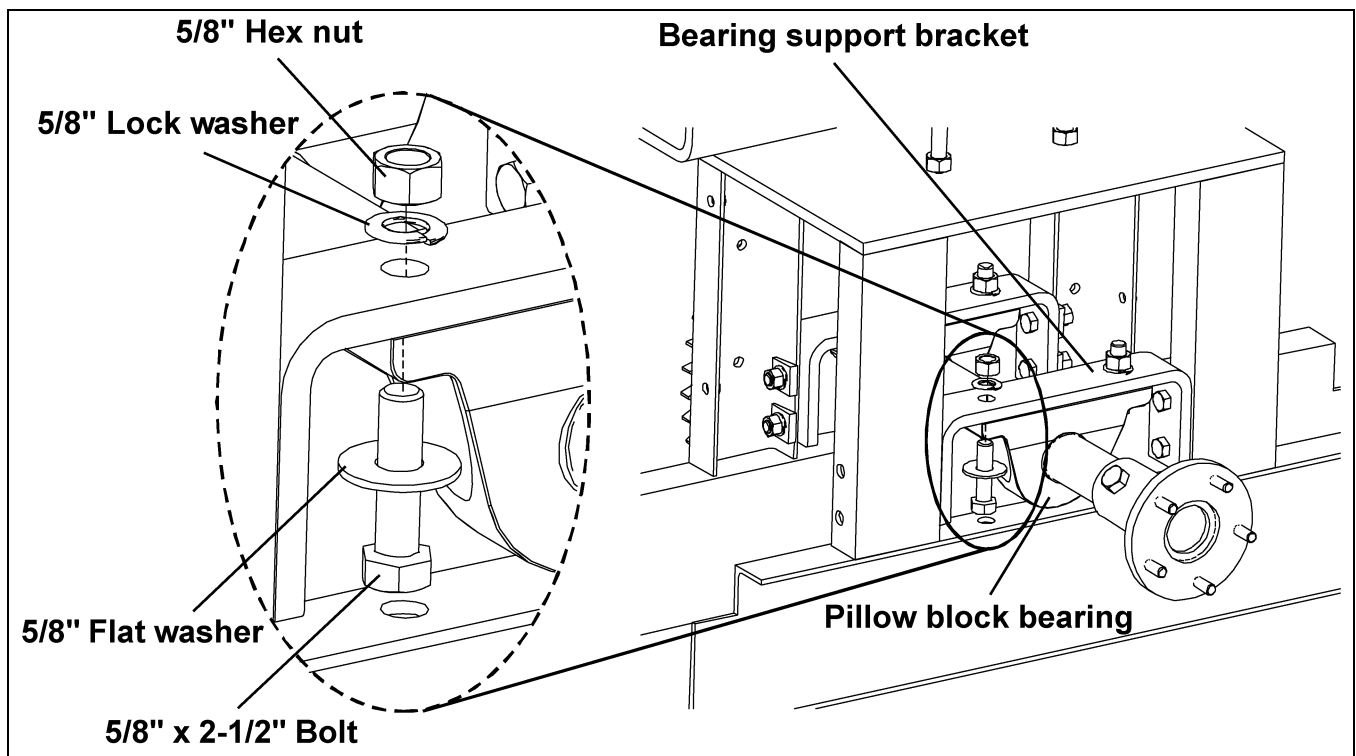

Figure 5L
F. Attach pillow block bearings to the bearing support brackets using 5/8" x 2-1/2" bolts, 5/8" lock and flat washers, and 5/8" hex nuts. (See Figure 5L.)